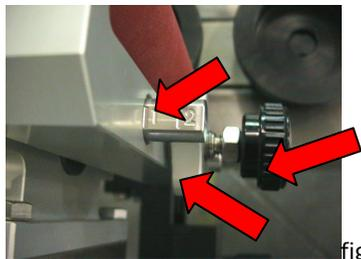
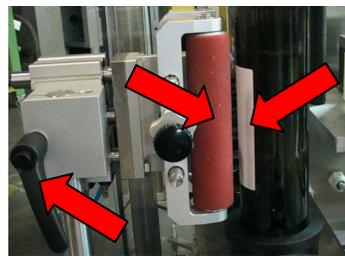

fig.6
fig.7
First occur to set the distance between contrast rolls in function the the bottle's diameter through the little knob and relative lock ring (fig.6). About height adjustment is possibile do that though the jaccarde fig.7, adjust approx. between the label's height size fig.7 :
- per diameters from 50 up to 70 mm, set on reference mark 1 (fig 6)